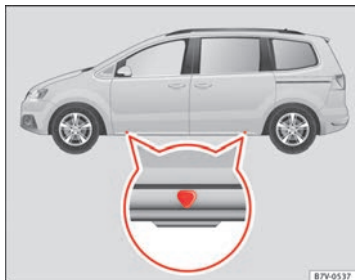
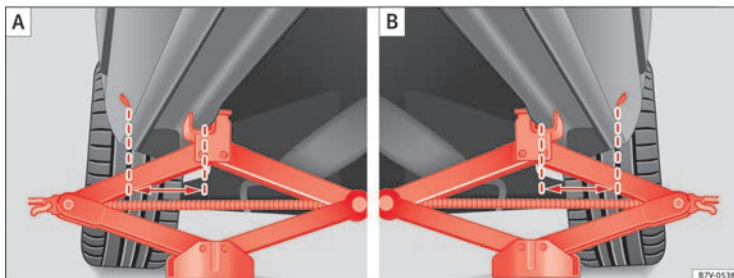

Fig. 186 Jack position points
Fig. 187 **A**: jack mounted on the left front part of the vehicle. **B**: jack mounted on the left rear part of the vehicle
The jack may be applied only at the jacking points shown (marks on chassis) ⇒ Fig. 186. The mark indicates the jacking points **below** the vehicle. The jacking points are on the ribs **behind** the front edges ⇒ Fig. 187. Always the relevant jacking point for the wheel to be changed ⇒ .
5. Look below the vehicle for the jacking point ⇒ Fig. 186 closest to the tyre which has to be changed.
7. Ensure that the foot of the jack is firmly on the ground and that it is placed immediately below the lifting point on the vehicle ⇒ Fig. 187.
8. Straighten the jack and continue raising it using the handle until the claw holds the vertical reinforcement beneath the vehicle ⇒ Fig. 187.
- Only fit the jack at the prescribed jacking points. The claw of the jack should grip the reinforcement nerve on the underbody ⇒ Fig. 187.